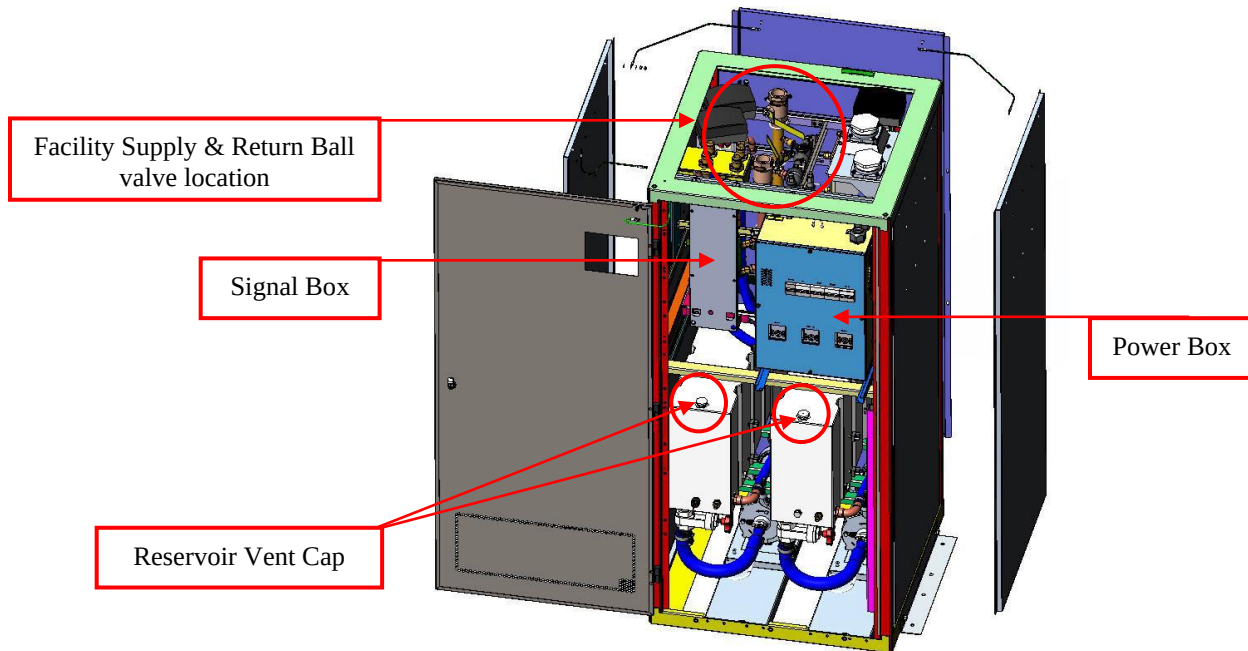

Figure 1 Location of Facility Supply & Return Ball Valves
3. Move Power Box out of the way by moving it on the guide rails. Depending on the hose being replaced, the Signal Box may also have to be removed to access the hose. Refer to Figure 1 for locations of Power and Signal Box.